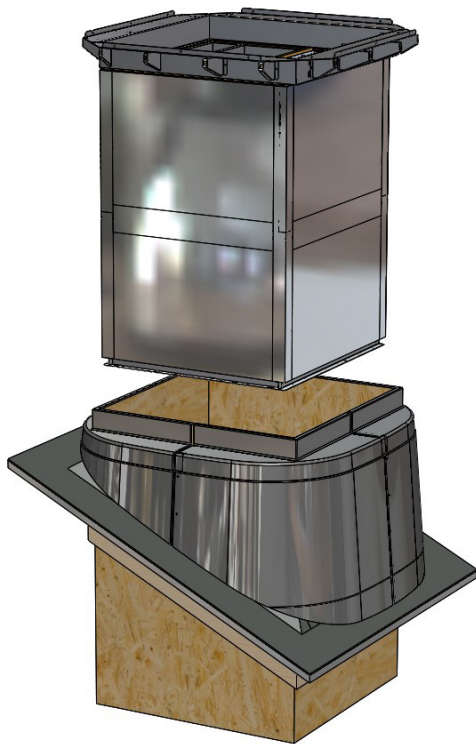

Figure 41 – Heat exchanger orientation.
1. Insert the heat exchanger in to the timber aperture - *see figure 41.*